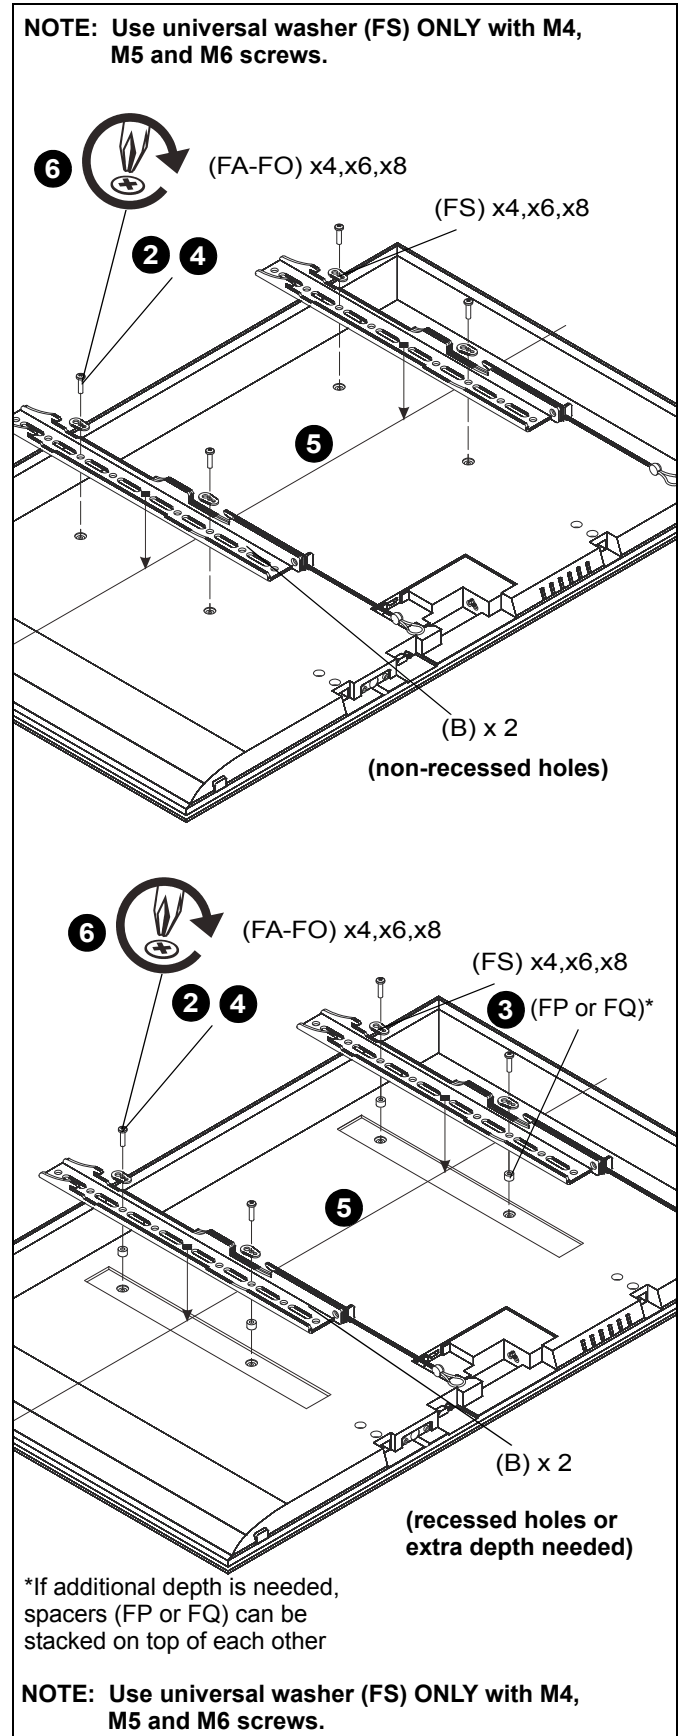

Figure 8
2. Select screw *diameter* by examining hardware (FA-FO) (8mm, 6mm, 5mm, or 4mm) and comparing with mounting holes on display. (See Figure 8)
3. Select spacers: (See Figure 8)
- If mounting holes are not recessed and both brackets (B) can lay flat against display, then no spacers are required.
- If mounting holes are recessed, or if protrusions prevent brackets (B) from laying flat, then spacers (FP or FQ) must be used.
**IMPORTANT ! :** The M8 screws do **NOT** require a washer. Use the universal washer (FS) **ONLY** with M4, M5 and M6 screws.
4. Select screw *length*: (See Figure 8)
- Using your hand, insert **SHORTEST** length screw of selected diameter (FA, FE, FI or FL) through bracket (B), universal washer (FS, if required), selected spacer (FP or FQ, if required), into display mounting hole. Do **NOT** thread screw into hole at this time.
5. Place brackets (B) on display, ensuring: (See Figure 8)
- Center of brackets (B) are as close to the center of the back of display as possible after being installed. Center of bracket is indicated by the diamond-shaped hole.
6. Using Phillips screwdriver, carefully install selected screws through universal washers (FS, if required), brackets (B), and spacers (FP or FQ, if required), into display. (See Figure 8)